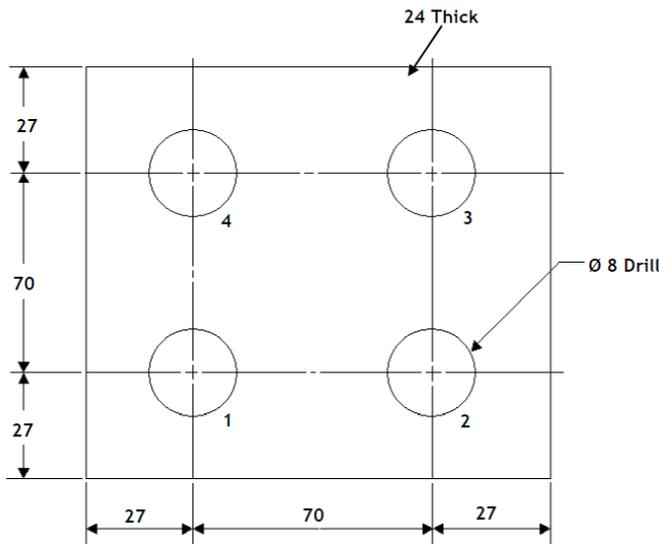

Figure 7
- b) Write CNC drilling Programing for the Figure 7